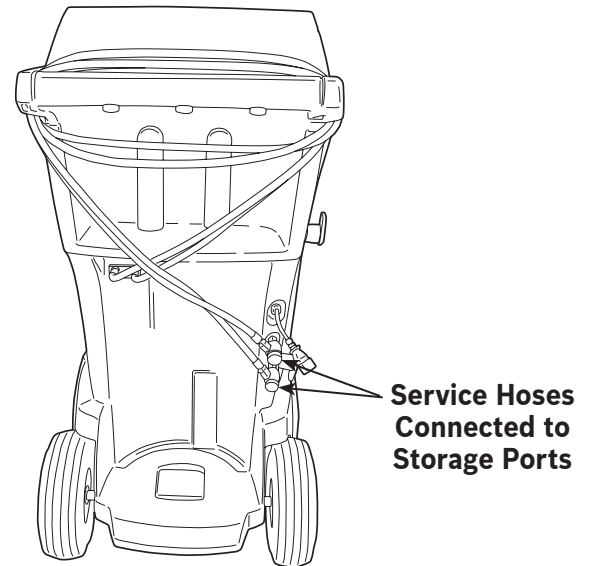

Figure 1
2. When prompted, connect the service hoses from the machine to their storage ports as shown in Figure 1. Press the ► key to continue.